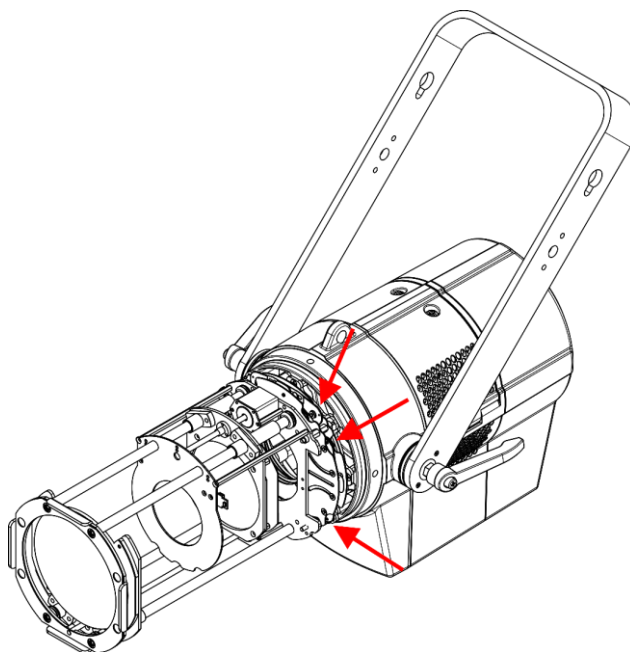

Fig. 09
- 02) Move the shutter controls to position the shutters (Fig. 09). There are 6 shutter controls (2 per shutter).